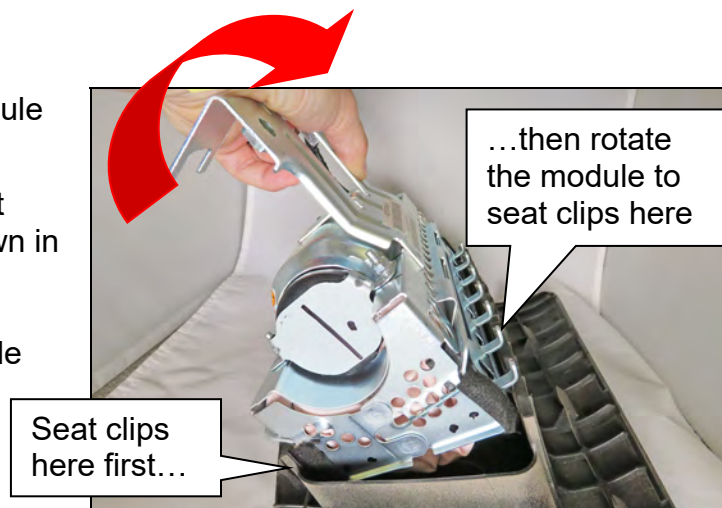

Figure 13
- Seat the module clips into the left side of the module cover as shown in Figure 13.